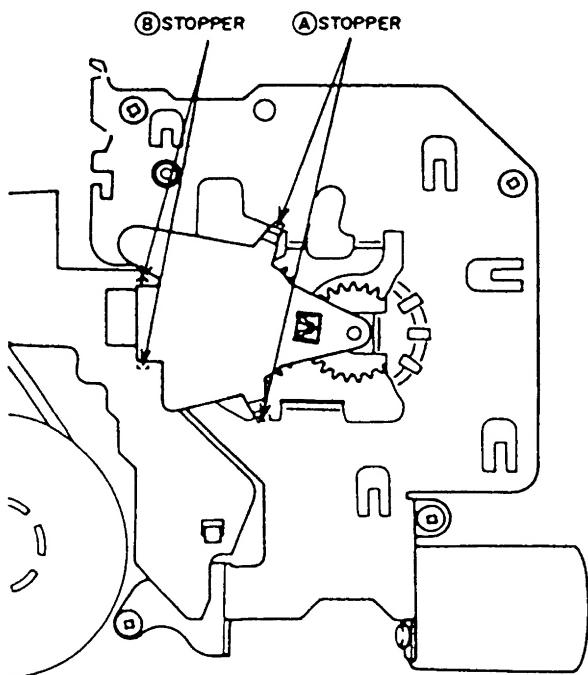

Fig. 3-5
1) Release the two \textcircled{A} stoppers as shown in Fig. 3-5.